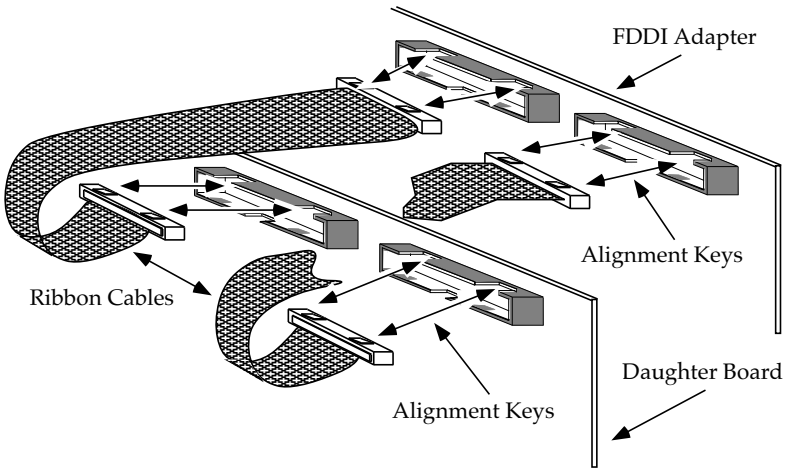

Figure 3-5. Connecting a Daughter Board
- Connect the daughter board to the FDDI adapter. Plug the interconnecting ribbon cables into the FDDI adapter and daughter board connectors as shown in Figure 3-5, on the next page. Observe the polarized keying of the cable and connectors.